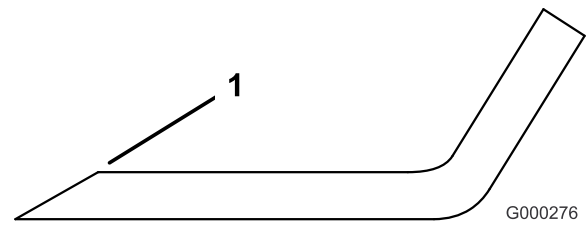

Figure 57
1. Use a file to sharpen the cutting edge at both ends of the blade (Figure 57). Maintain the original angle. The blade retains its balance if the same amount of material is removed from both cutting edges.